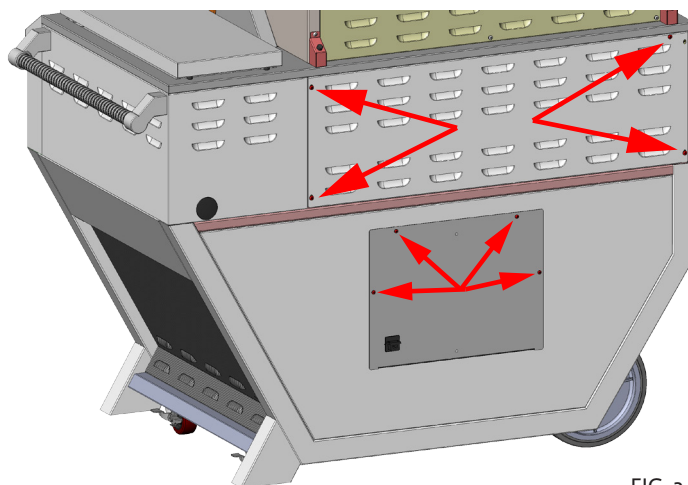

FIG. 2
2. As shown in Fig. 2, remove 4 screws on the large louvered cover at the back of the grill. Remove cover and set aside.